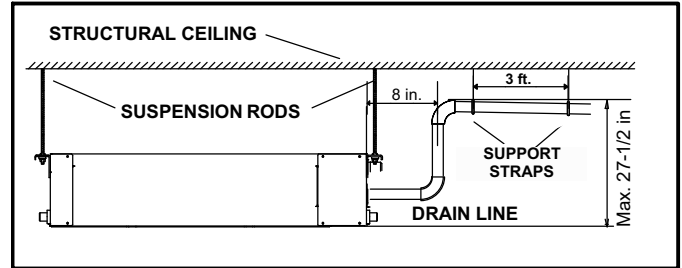

Figure 11. Condensate Drain with Pump — Single Unit
- 4 - See figure 11 for applications including a single unit using the optional drain pump.